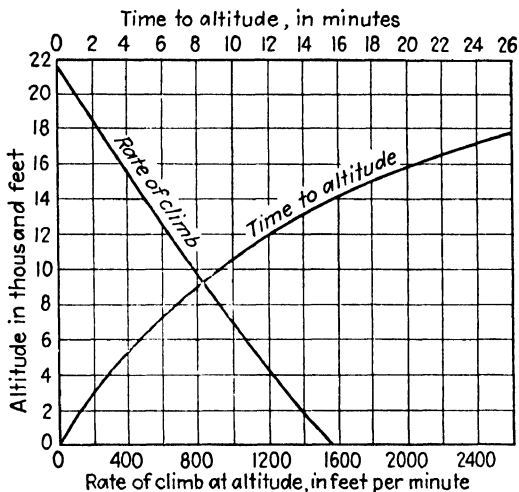

Fig. 151.
4. The following graph (Fig. 151) was published by the Chance Vought Corporation in a commercial advertisement